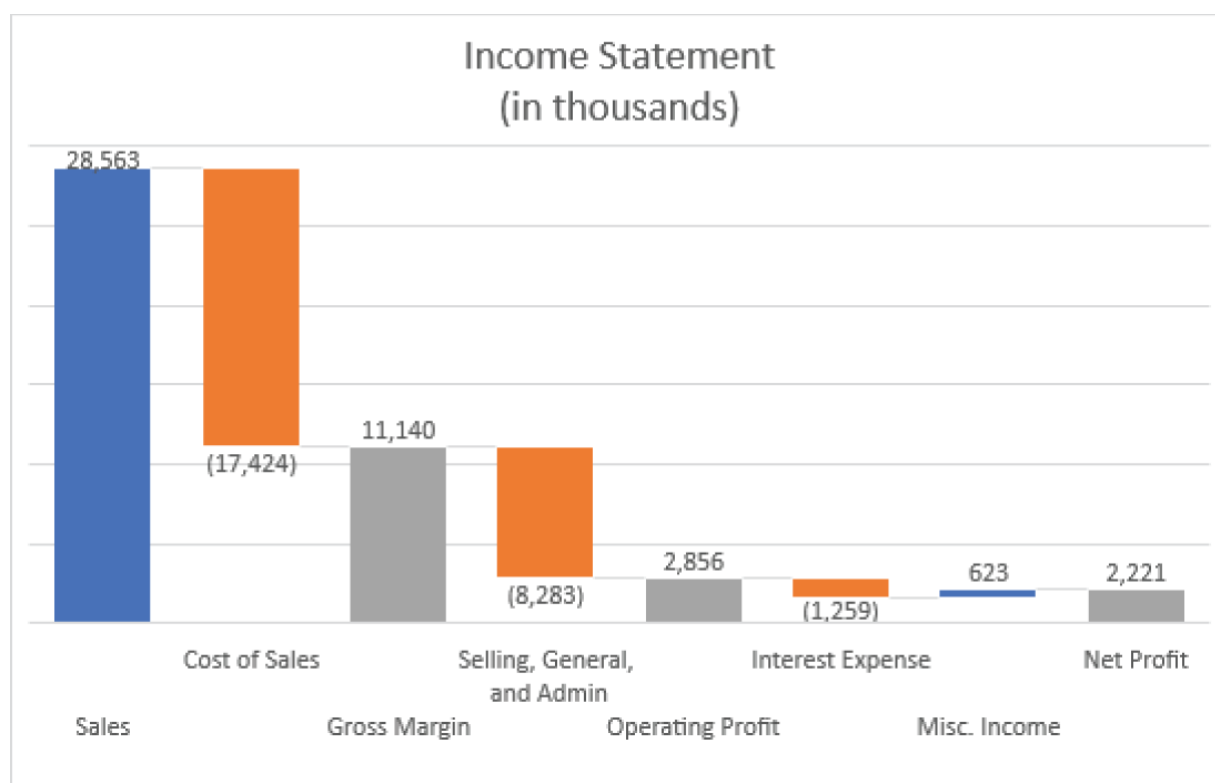

Figure 8.38: The final income statement waterfall chart
12. Resize the chart so that the category axis labels are legible. The final chart is shown in Figure 8.38.